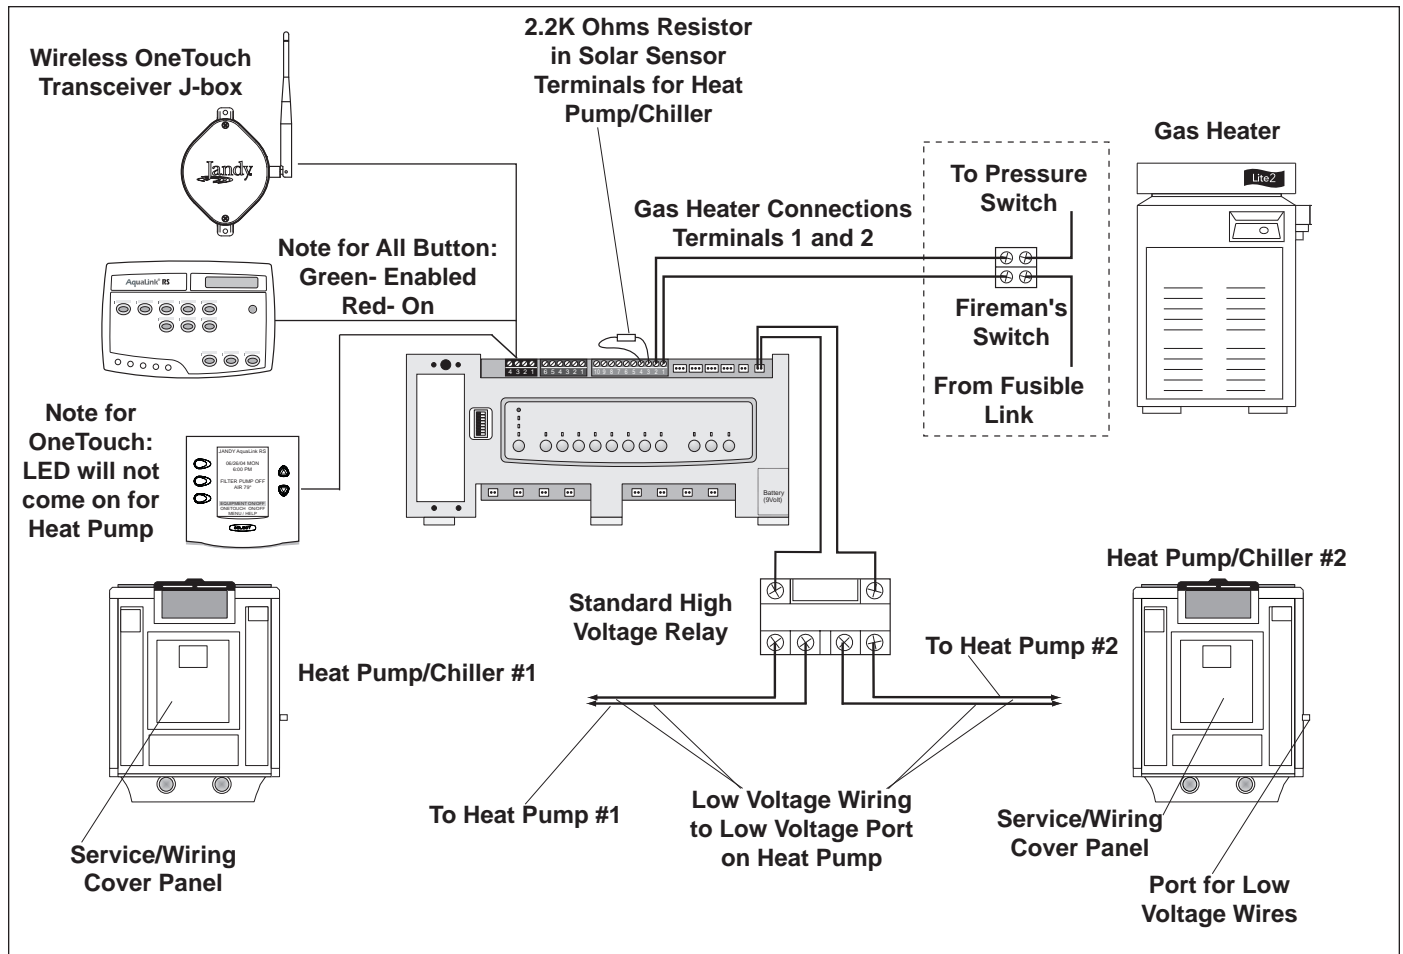

Figure 16. Heater and Heat Pump/Chiller Wiring
1. Install a fixed resistor, with a value of 2.2K Ohms, in the solar sensor terminals #3 and #4 of the green, 10-pin terminal bar of the AquaLink RS Power Center (see Figure 16).
2. To run the wires from the Heat Pump control panel, remove the 5 screws that attach the service/wiring cover panel to the heat pump (see Figure 16).